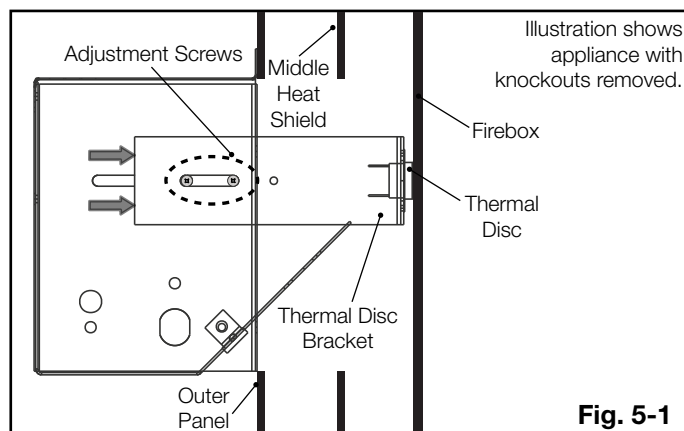

Fig. 5-1
1. Ensure the thermal disc bracket is in the correct position (**Fig. 5-1**).
5. Reach between the outer panel and the firebox, then slide the thermal disc bracket until the thermal disc is touching the rear of the firebox (**Fig. 5-1**).